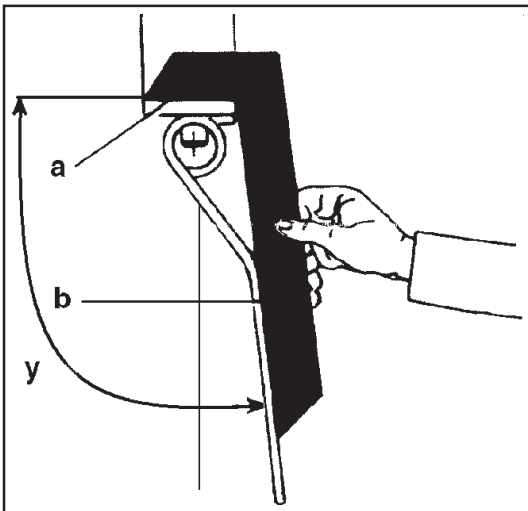

Fig. 4-2
- adjust tines by adjusting the stopper screw (x) so that the gauge is parallel for (a) and (b) (fig. 4-2).